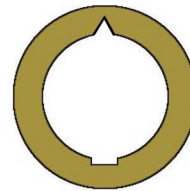

Fig. 4
- **Step 7B** Modify one of the four TB-7 rings with a “V” notch as shown in Fig. 4. This will allow the passage of the Kevlar thread later.